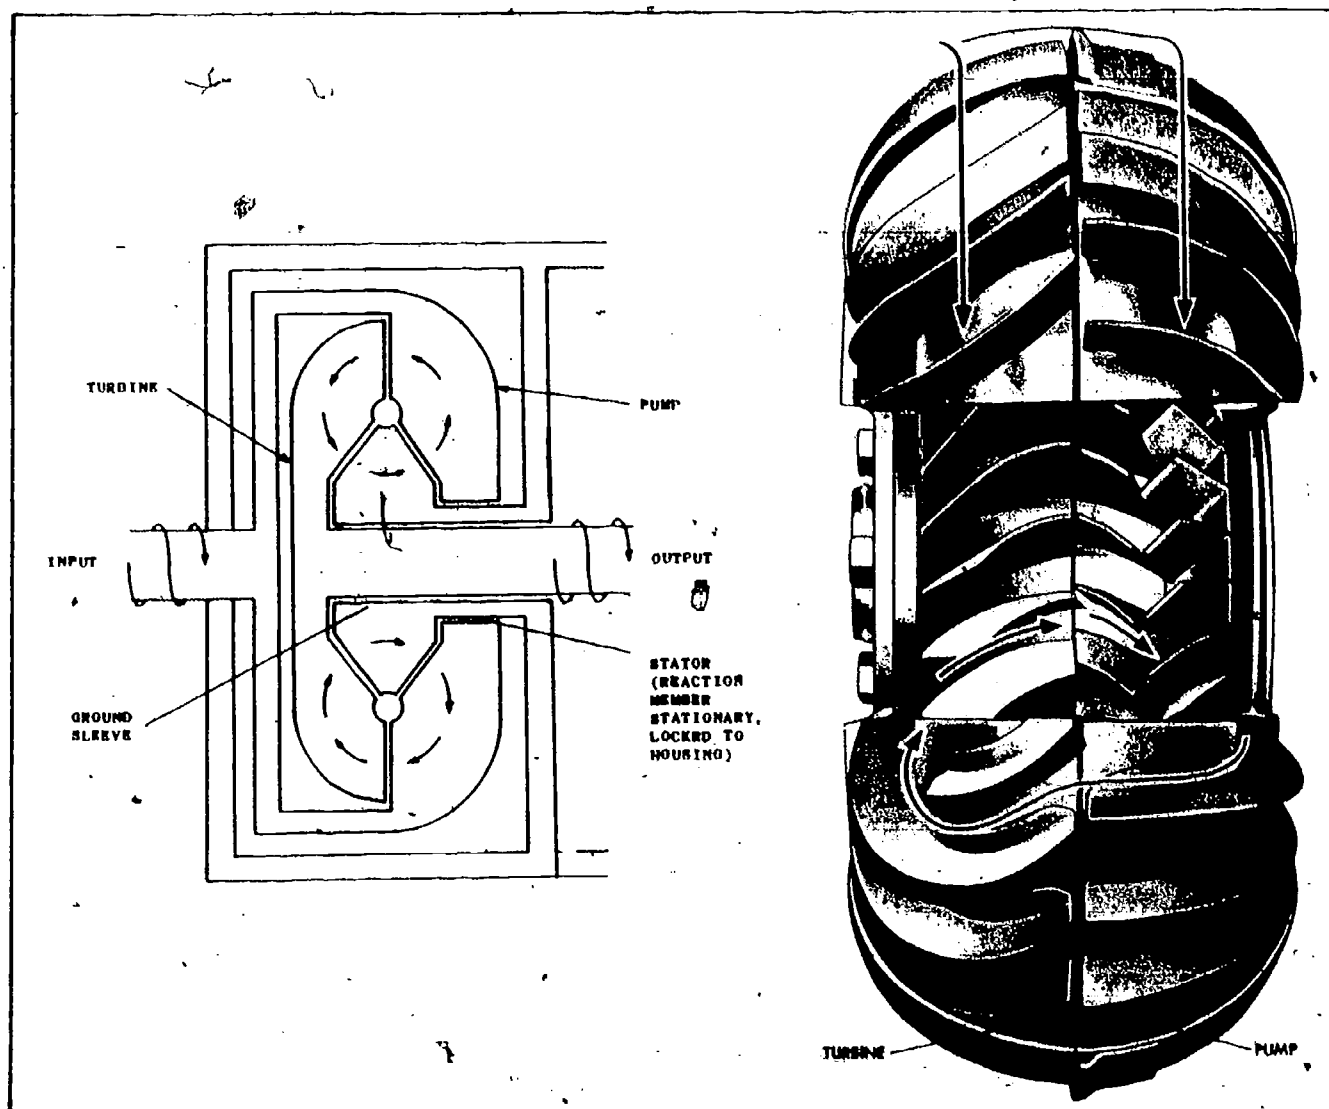

Fig 3-26. Torque converter and oil flow.
- (2) Torque converter. A simple torque converter is similar to a fluid coupling. A torque converter has curved vanes and additional rotatable members that provide a means of torque multiplication and also act as a fluid coupling. A torque converter can be utilized to replace a solid friction conventional clutch and conventional transmission.
- (a) Operation. All torque converters have a minimum of three elements: pump, turbine, and stator (rotatable member). The stator changes the direction of the oil for return to the pump. It can rotate, but is stationary when there is a great difference between pump and turbine speed. If the stator did not change the direction of the oil from the turbine, the oil pressure would flow in the opposite direction of pump rotation and act as a brake. A simple torque converter and the oil flow are illustrated in figure 3-26.